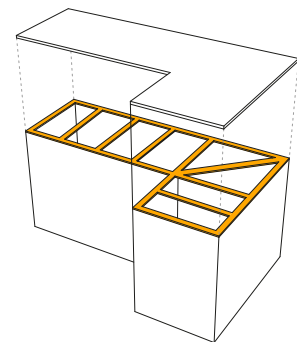
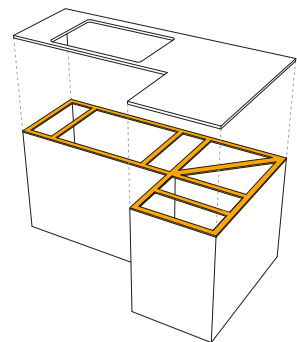

fig. 3
fig. 4
- **12 mm and 20 mm:** it is possible to use a slatted structure with evenly distributed traverses around the entire perimeter (fig. 3). If one or several holes are planned for the countertop it will be necessary to reinforce those parts most subject to strain (fig. 4).